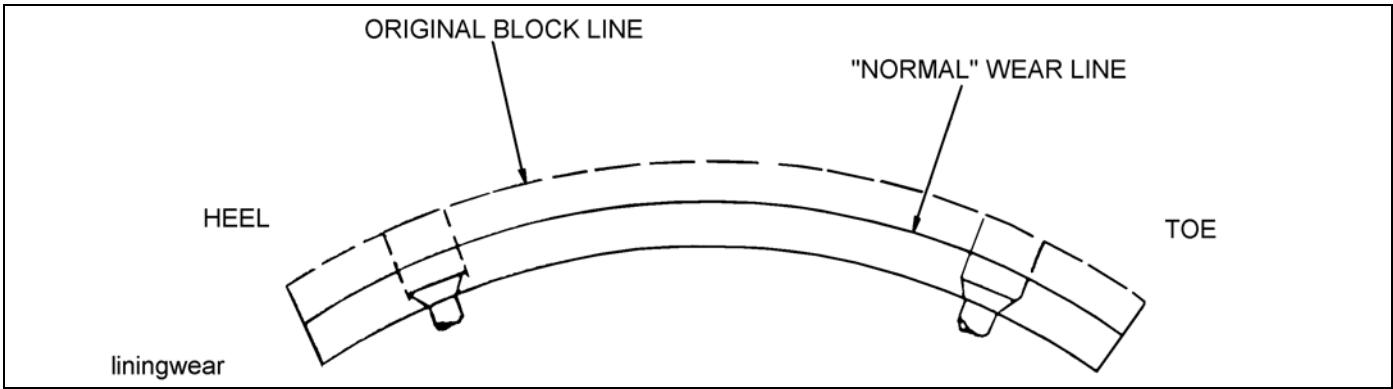

Figure 4-9: Brake Lining Wear
3. Check brake linings for excessive wear or distortion (**See Figure 4-9.**)
The brake assemblies should be inspected and adjusted every 2,000 miles or monthly. Examine the brake linings visually to locate the lining showing the greatest amount of wear. The wheel and drum should be removed and the linings replaced if the thinnest portion of the lining is 3/8 in. (9.5 mm) or less. Do not allow the linings to wear thin enough that the lining rivet contacts the drum. (See Figure 4-9.)